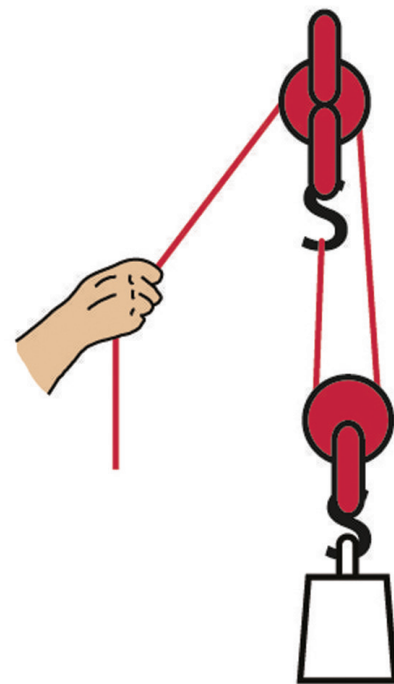

Figure 5: If you connect two pulleys to a piece of rope like this, you get a mechanical advantage.
Look at Figure 5. A person uses two pulleys to lift a weight. One pulley wheel is connected to the ceiling. The second pulley wheel hangs on a loop of rope. The two pulleys and the way the rope is wrapped around both pulleys, forms a **pulley system**. The pulley system makes it easier to lift a load.
- Two pulleys connected to a single piece of rope, as shown in Figure 5, give a mechanical advantage.